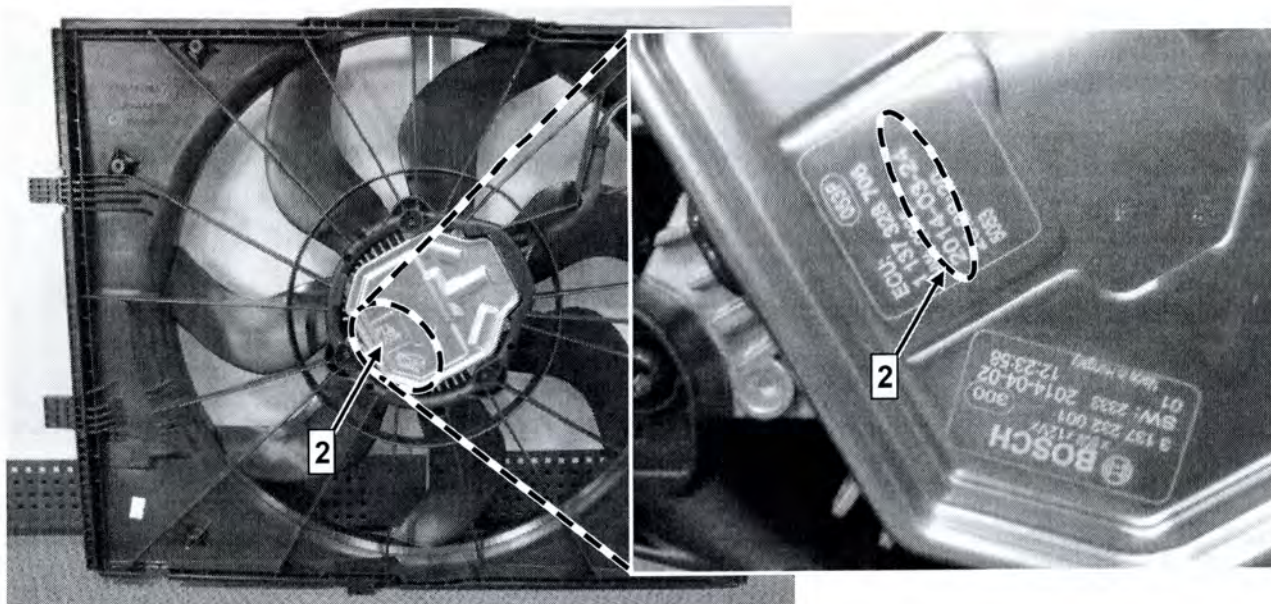

Figure 2
- The production date (2, Figure 2) is located in the lower section of the radiator fan motor (Figure 2).
- If **no** production date (2) can be found in the lower section of the radiator fan motor (**OK**):
- If production date **is not** between 2013-04-22 – 2013-05-08 or 2013-10-11 – 2013-10-15 (OK): Procedure is complete
If **no** production date (2, Figure 2) can be found in the lower section of the radiator fan motor (OK): Procedure is complete.